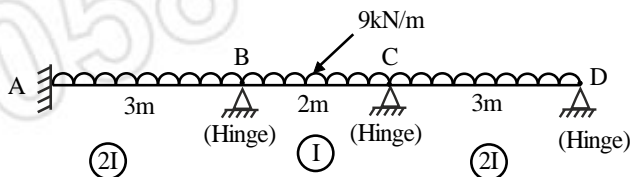

Fig. 8
8. Analyse the continuous beam shown in fig. 8. Draw B.M.D. Take $EI = 1$ unit (Note : udl is continuous on span AB, BC & CD) 13